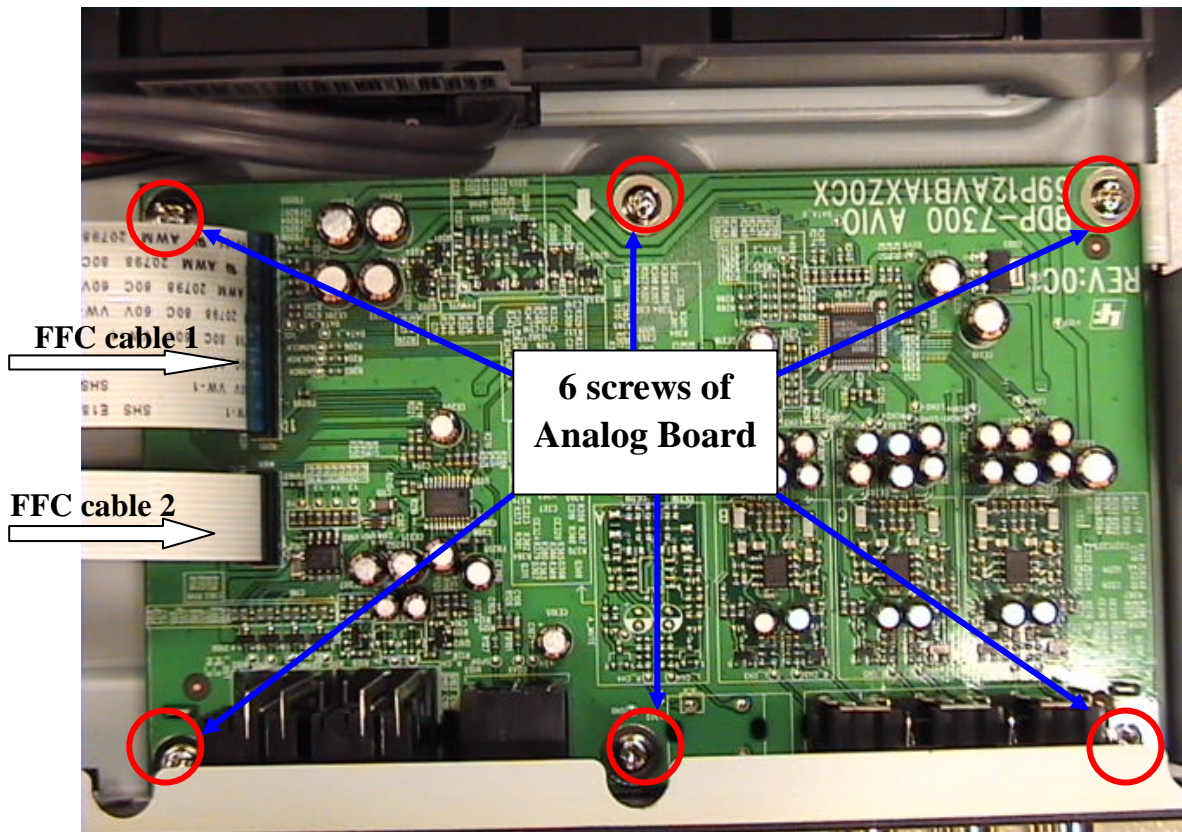

Figure 4-6-1 Analog board
- 1) Remove 2 FFC cables and unscrew 6 screws on Analog board. (See figure 4-6-1)